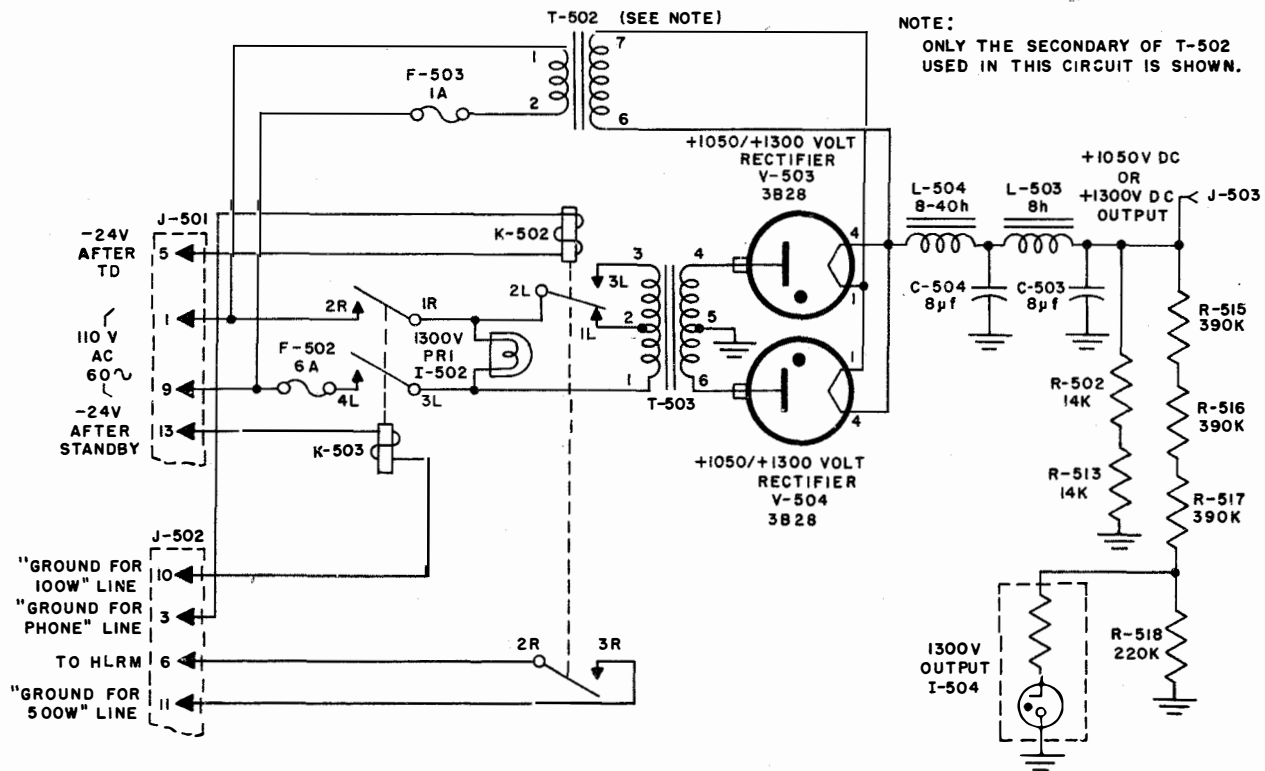

Figure 2-63. +1,050/+1,300-Volt D-C Supply, Simplified Schematic
d. +1,050/+1,300-VOLT D-C SUPPLY.—The +1,050/+1,300-volt rectifier (figure 2-63) is used only in 100-watt transmission. The output to the RFA is +1,300 volts except during phone operation when it is reduced to +1,050 volts. When the START button of the MAIN POWER switch (Ⓢ), S-3004 on the LVPS, is depressed, 110-volt a-c, 60-cycle, single-phase power is delivered to the filament transformer, T-502, whose primary is protected by fuse F-503. One secondary of T-502 supplies filament voltage to the +1,050/+1,300-volt rectifiers, V-503 and V-504.